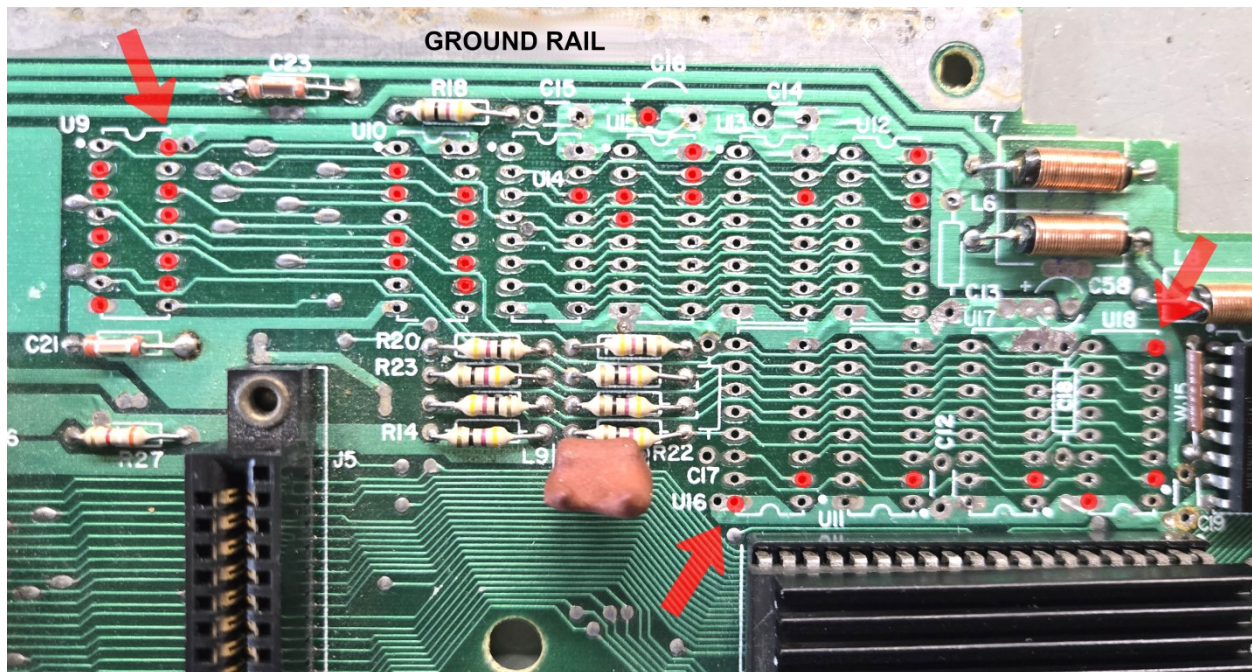

Figure 1
Desolder and remove all associated decoupling capacitors, DRAM, and multiplexer ICs. Below is a listing in the order on the PCB for easier reference. See **Figure 1**.
Inspect desoldering work performed and repair any visual issues found or take notes at this point to address later if bodge/repair wires need to be added after the new DRAM to SRAM converter board is installed. Verify all solder is fully removed from solder pads shown in red in **Figure 1** to ensure room for pins later. Note: Redundant parallel signals are not used by the new SRAM Converter mod PCB and may not even have to be addressed if the break is after where the signal is being tapped for the new PCB. See troubleshooting section for diagnosing broken traces if needed.
Start the process of installing your new SRAM Converter mod PCB by aligning the GND and VCC pins just above the U24 40-pin IC then verify the placement of GND and VCC at the far left of the PCB as the reference to properly align the PCB. See arrows in **Figure 1**. Carefully and slowly lower the PCB in place. Do not rush this process. It may be necessary to wiggle the PCB slightly if any pins are ever so slightly off as you work them all in place as you carefully lower it. If for some reason a pin will not align, bend it slightly to seat. Lower the PCB as parallel as possible with the ADAM Gamma PCB to avoid bending pins and making the installation more difficult.
☐ GND (5)	Ground Rail along top of PCB (see Figure 1)